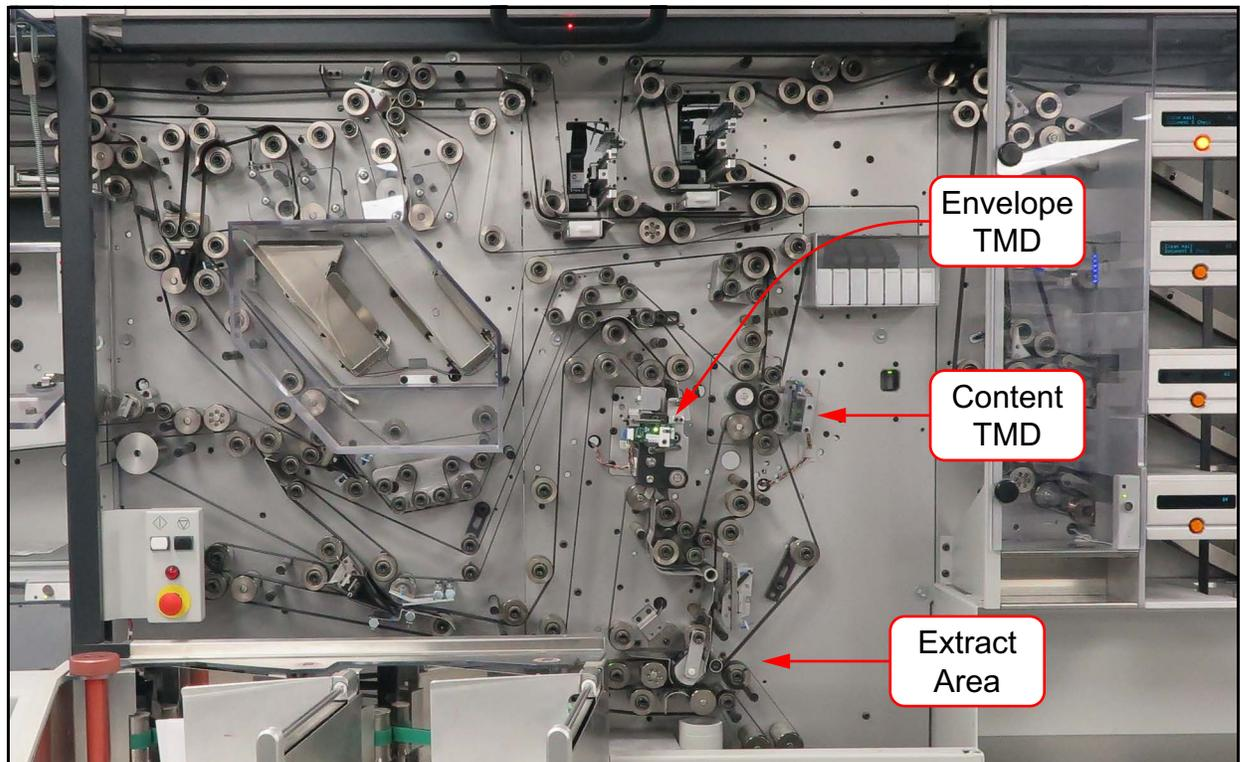

Figure 6-5: Extract area
- Check the extract area (Figure 6-5) for tape, paper scrap, etc. Check the envelope and content TMD rollers for debris and remove accordingly.